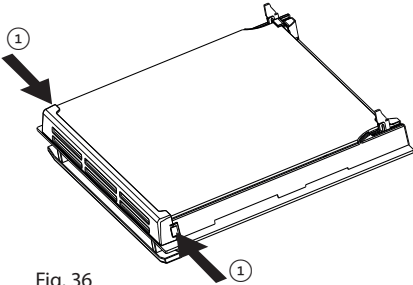

Fig. 36
- Touch the glass retainer tabs in on both sides of the door and remove the glass retainer (figs. 36, 37).